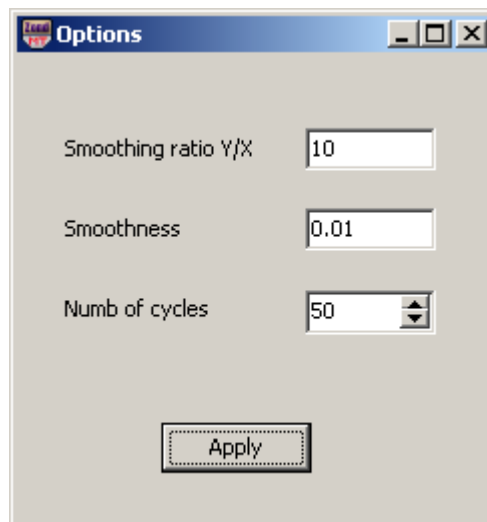

Fig. 64 Setting smoothing 2D smoothing
*2D smoothing* function performs two-dimensional data smoothing. This function, unlike the previous one, allows data smoothing in the horizontal and/or vertical direction rather than removing of certain spikes. After selecting this option, a dialog Options (Fig. 64) appears with the following settings: